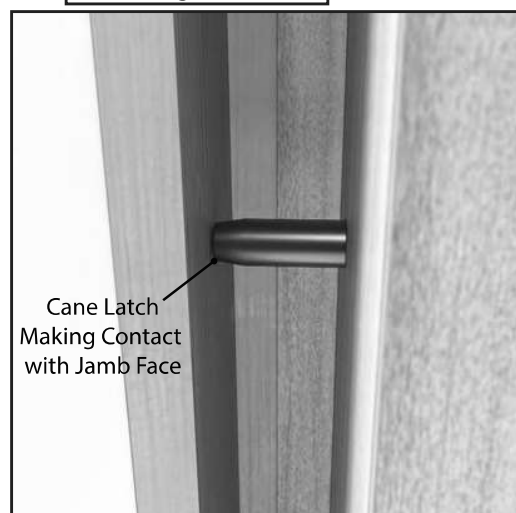

Figure 8
10. Prop the door back open and prepare to drill the strike plate hole starting with a power drill and $\frac{1}{4}$ " drill bit. Drill $\frac{3}{4}$ " Deep with the $\frac{1}{4}$ " drill bit in the center of the marked hole on the Jamb. Proceed to drill then with a 1" Spade Drill bit $\frac{3}{4}$ " deep (see figure 8).